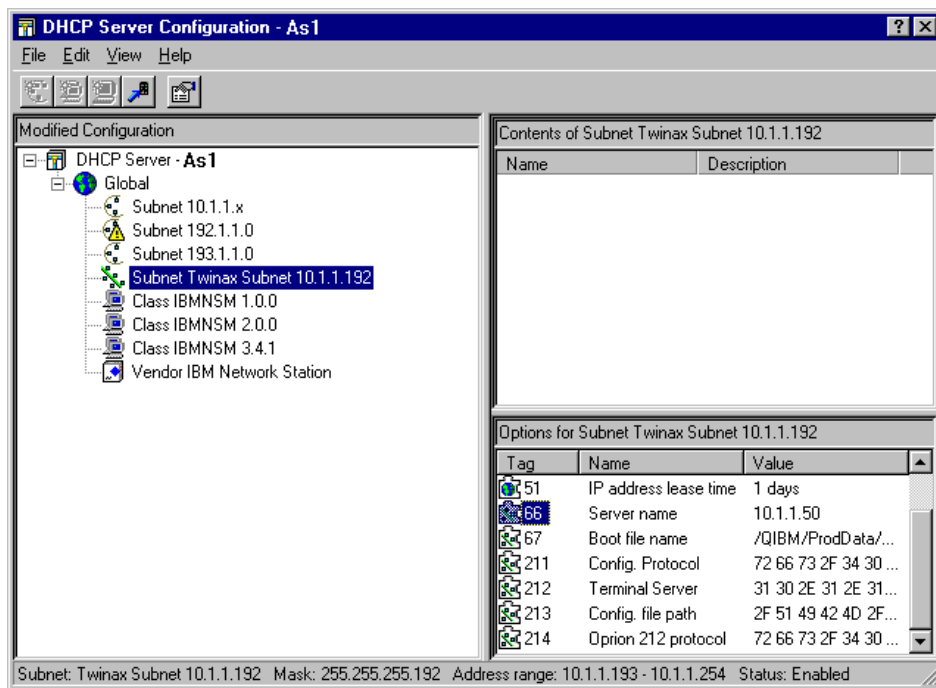

Figure 113. Operations Navigator - Modified DHCP Configuration Display
10. After the tags are added, click **OK**. You are returned to the main DHCP server display. With the twinax subnet still highlighted, the options are shown with their corresponding Hexadecimal data. The resulting display is shown in Figure 113 on page 204.